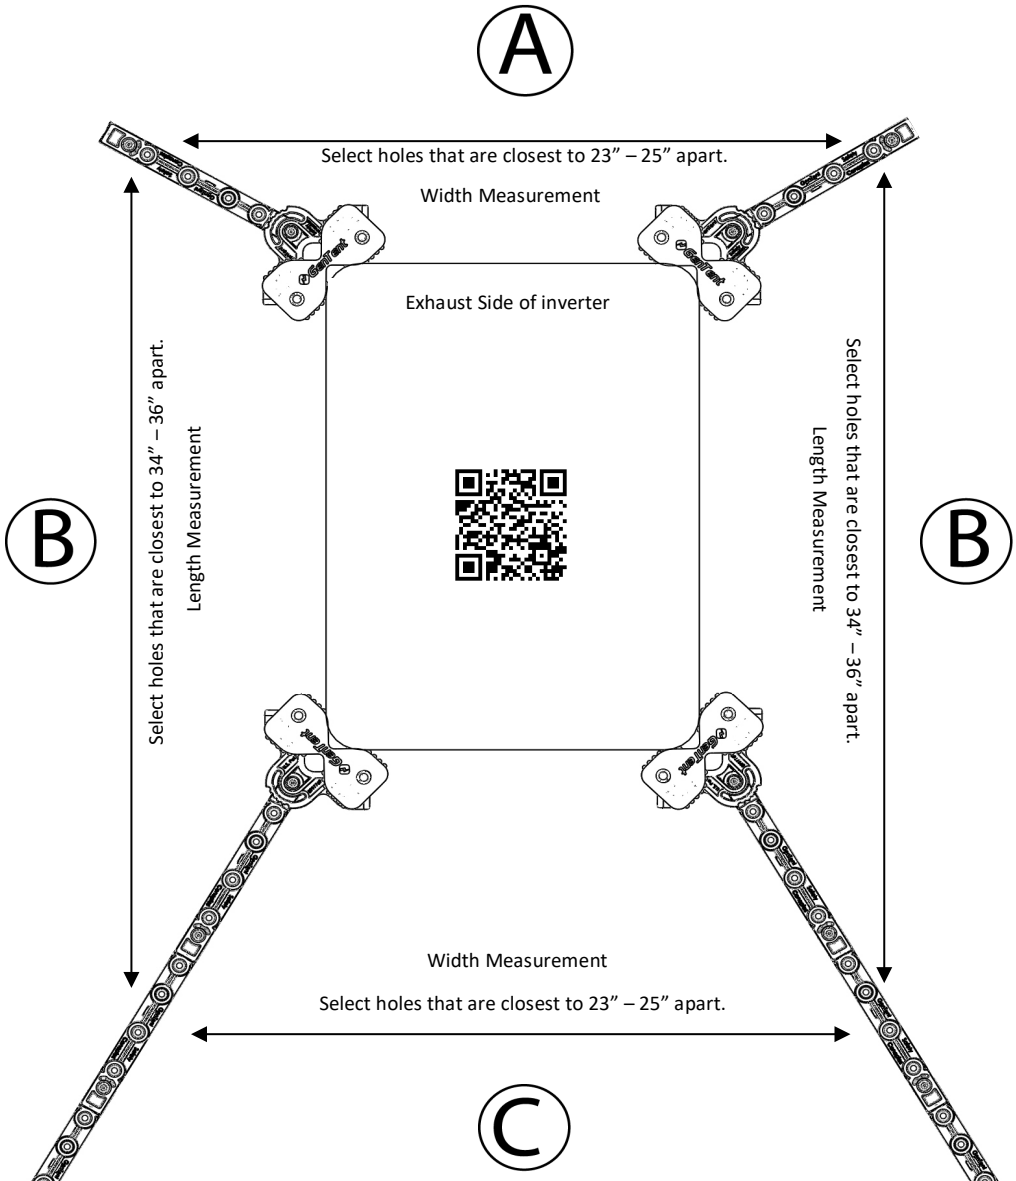

Fig. 2.4
- Move to the opposite end from your exhaust and add Extender Arms evenly until you can measure a length between 34" to 36". (Fig 2.4 "B")
- f.** Measure the width between the rod holes on the second set of Angle Braces to ensure the distance is between 23" and 25" (Fig 2.4 "C")